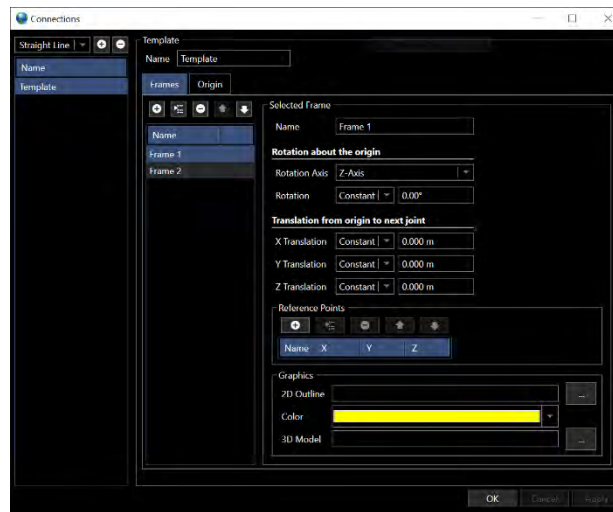

FIGURE 15-19 CONFIGURE ARTICULATED FRAME CONNECTION DIALOG
- 8 **Frames Tab:** Configures the individual rigid frames that make up the articulated frame, see Figure 15-19